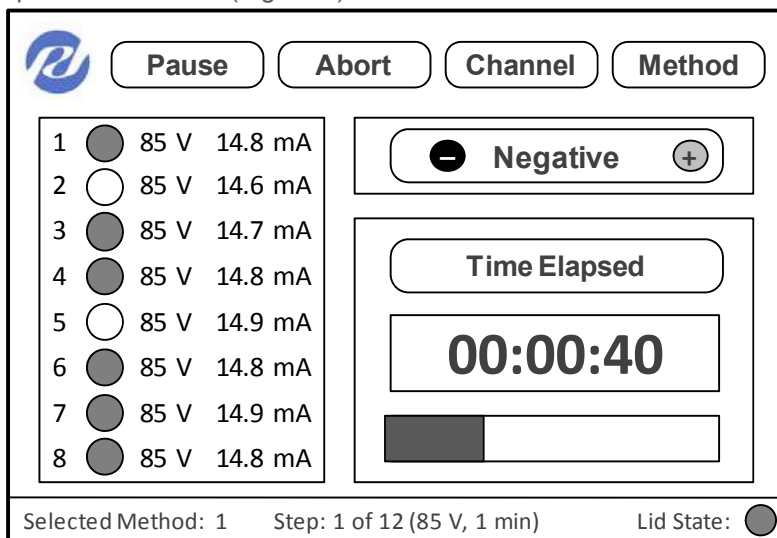

Figure 7. The GELFREE 8100 Fractionation Station Main Screen.
Once the device is powered up, the central navigation and operating screen will be displayed on the touch screen interface. The 'Main Screen' includes the key features necessary to navigate the control software and develop/edit, execute and monitor separation methods (Figure 7).
1. On the Main Screen, touch the 'Method' button displayed in the upper right hand corner (Figure 7). This will take you to the Methods Screen (Figure 8).
6. Next, press 'Apply' on the same screen to go back to main screen (Figure 7).